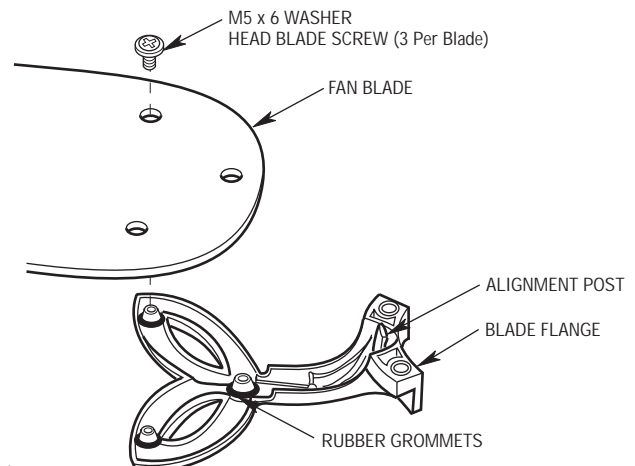
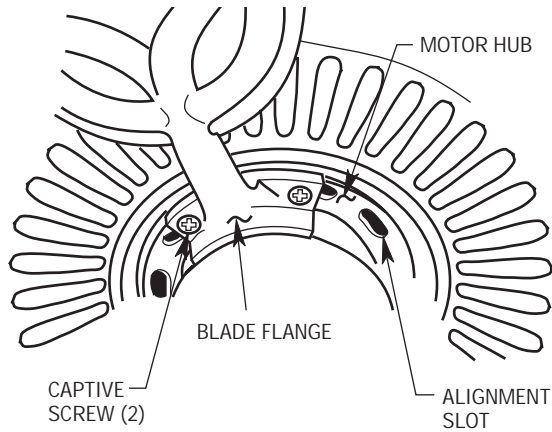

Figure 12
Figure 13
1. Make sure the three rubber grommets are firmly seated on each of the blade flanges. Then mount the blade flanges to the fan blades using three M5 x 6 washer head blade screws per blade (Figure 12).
- 2. Mount one blade assembly to the motor hub by mating the alignment post (Figure 12) of the flange with one of the alignment slots in the motor hub (Figure 13). Then tighten the two captive screws in the flange to secure the flange to the motor hub. Repeat this procedure for the other four blade assemblies. Make sure all screws are tightened.